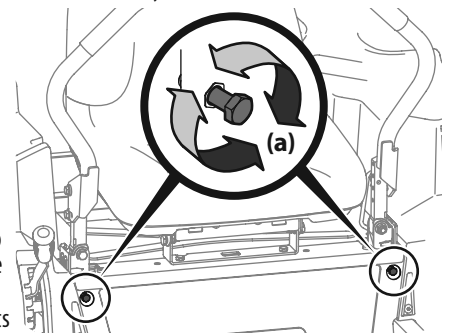

Figure 37
2. Locate the lapbar drive control lever stop adjustment bolts (a) on the front of the seat frame. See 2. Locate the lapbar drive control lever stop adjustment bolts (a) on the front of the seat frame. See Figure 37.